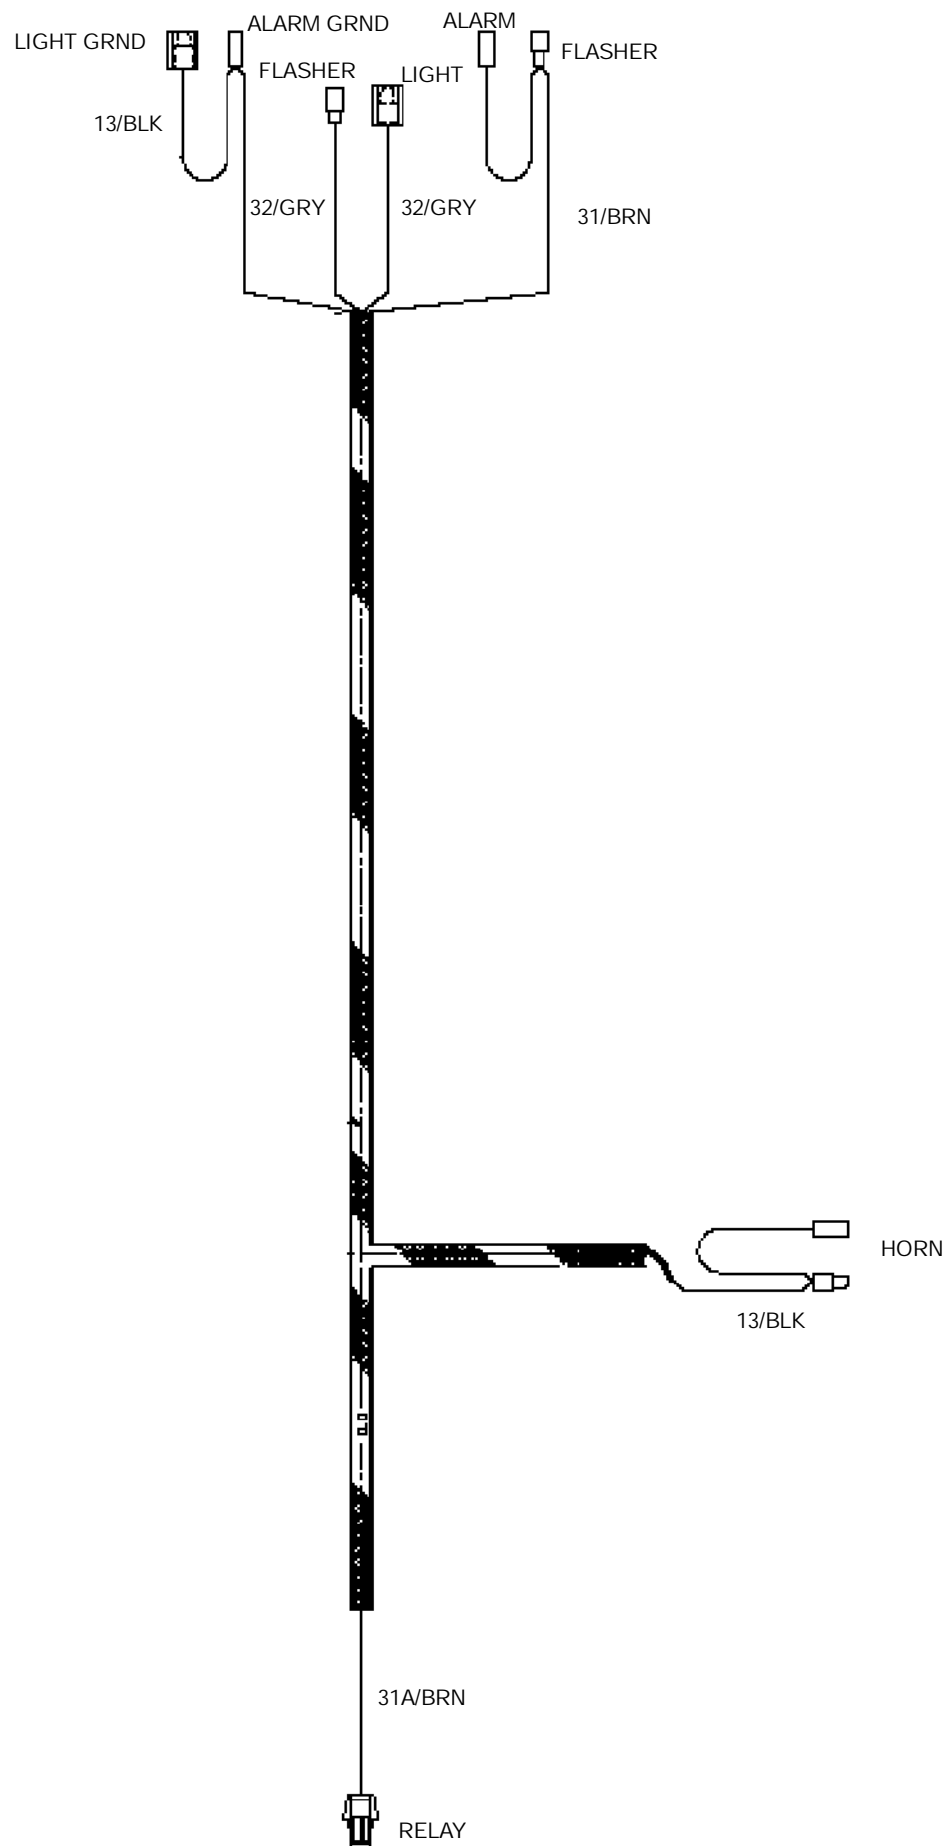

FIG. 4 - Back-up Alarm Wire Harness 365202
5. Locate relay number 4 and wire 31/BRN (with the open weatherpak connector). Plug the power wire of the new harness (13) into the connector of wire 31/BRN. (Refer to FIG. 4)
6. Connect the ground wire from the new harness (13) into the ground terminal of the machines horn. (Refer to FIG. 4)